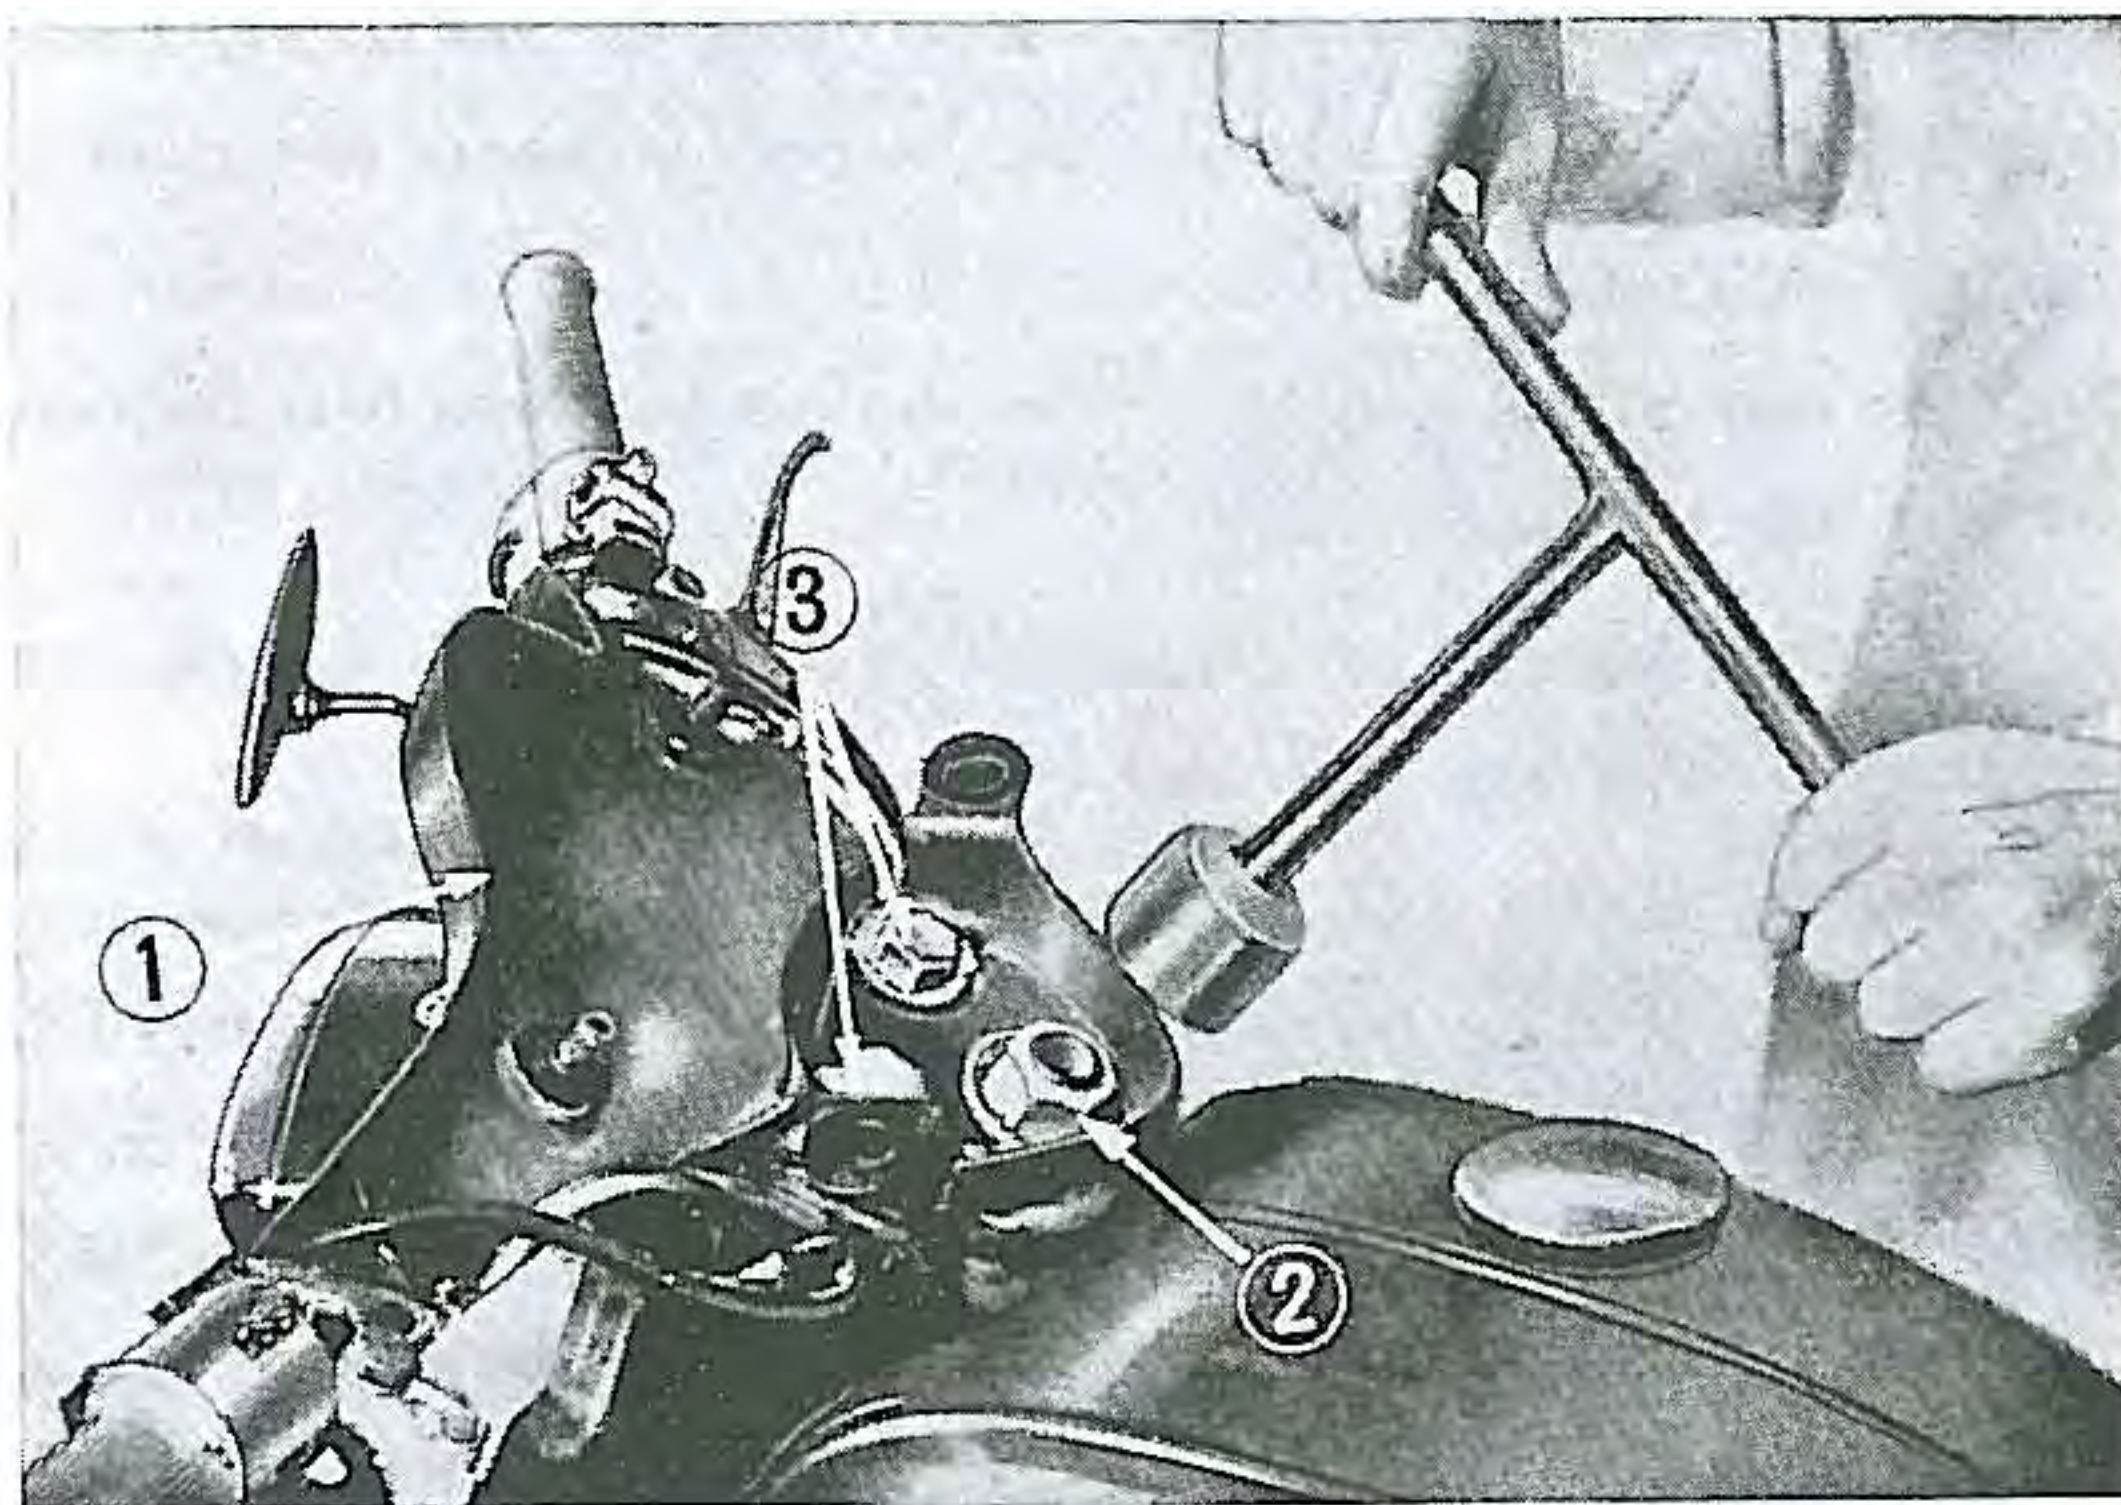

Fig. II 10. Removing steering stem nut (C92)
- (3) Straighten the folding washers located on the fork top bridge plate, with a chisel and hammer, and remove the 2 bolts retaining the front fork and 1 big nut for the steering column. Then the fork top bridge plate should be taken off. (Fig. II-10 for standard model) (Fig. II-11. for CB92, CA95)